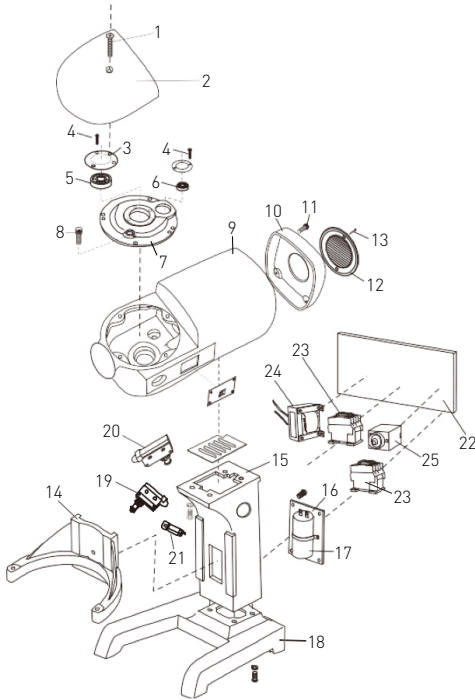

Figure 1: Transmission gear at the top, bowl cradle and stand
- Transmission gear system at the top, bowl cradle and stand (Figure 1);